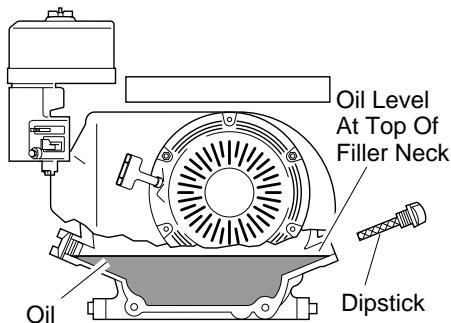

Figure 6 - Checking Oil Level (Model PGH7500IE Shown)
1. Remove dipstick (see Figure 6). Wipe dipstick clean.
3. If level is low, fill to top of oil filler neck (see Figure 6). For Model PGH11000IE only, fill to top dot on dipstick. Only use oil recommended in engine Owner's Manual.